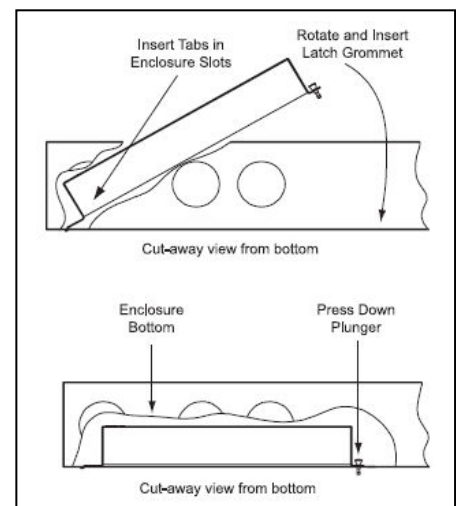

Figure 2
- A. Mounting in On-Q Enclosure (see **Figure 2**):